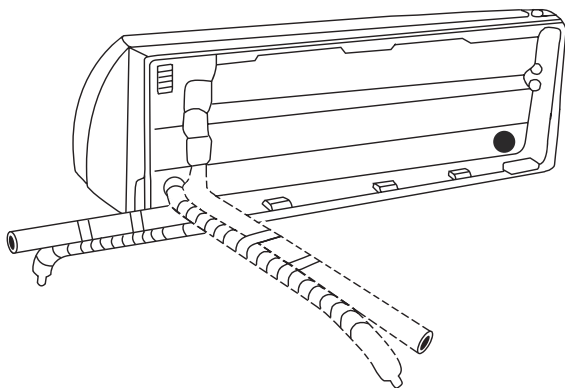

Fig. 3.4
*Refer to Fig. 3.4 for details.*